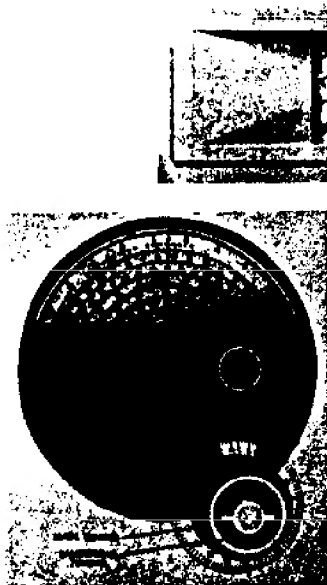
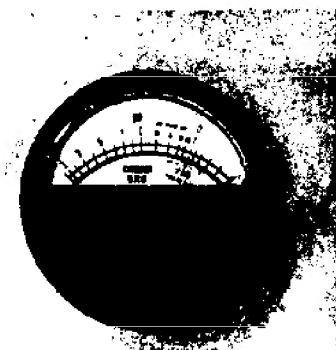

Figure 6.
Figure 7. View showing Carrier Meter
5. Set the bandsread (fine tuning) dial to 0 (See Fig. 6) by turning the outer or metal knob on the tuning assembly. If the bandsread dial doesn't move, operate the locking knob (See Fig. 6) by turning to the right to unlock the bandsread dial. After setting the bandsread dial to zero, again turn the locking knob to the right to lock the bandsread.
6. Now tune in stations by tuning with the main control knob. (See Fig. 6.) As the station is tuned in, the carrier meter needle (See Fig. 7) will move from the left side of the scale to the
8. The frequency calibration on the main tuning dial for the broadcast band is shown on the scale at the bottom of the dial. (See Fig. 6.) This scale as all other scales is calibrated in mc (megacycles) and tunes over the broadcast band from .54 to 1.62 mc (in kilocycles 540 to 1620 kc). For example, radio station WGN Chicago is 720 kc or .72 mc. Just divide kc by 1000 to get mc.